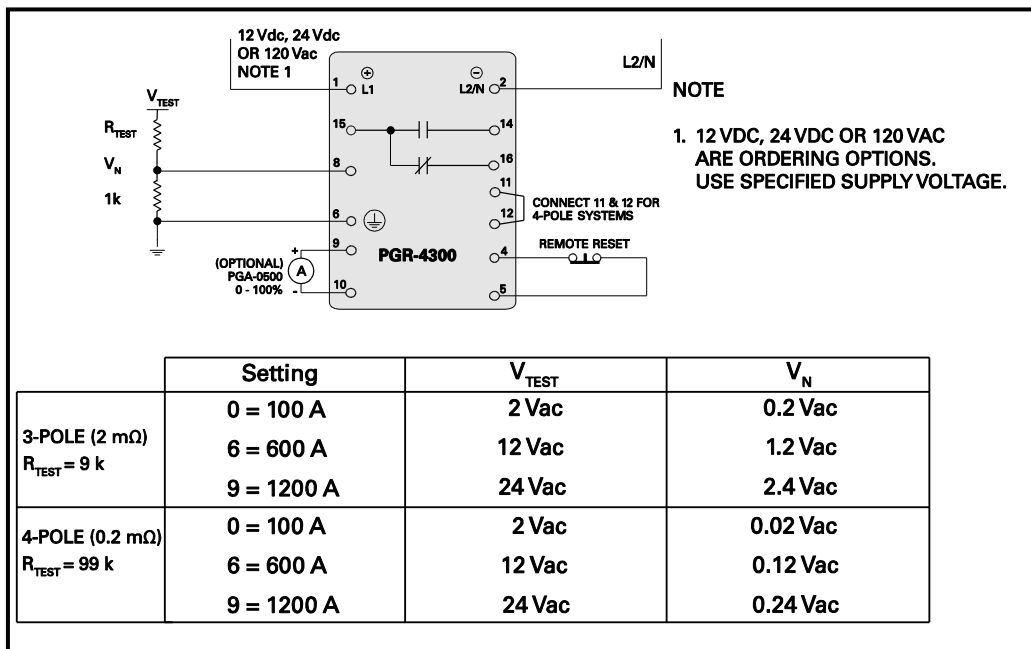

FIGURE 7. PGR-4300 Performance Test Circuit.
- Verify proper reaction of the device in response to a simulated ground-fault current. To simulate ground-fault current, set up a voltage-divider circuit as shown in Fig. 7.
Fig. 7 updated.